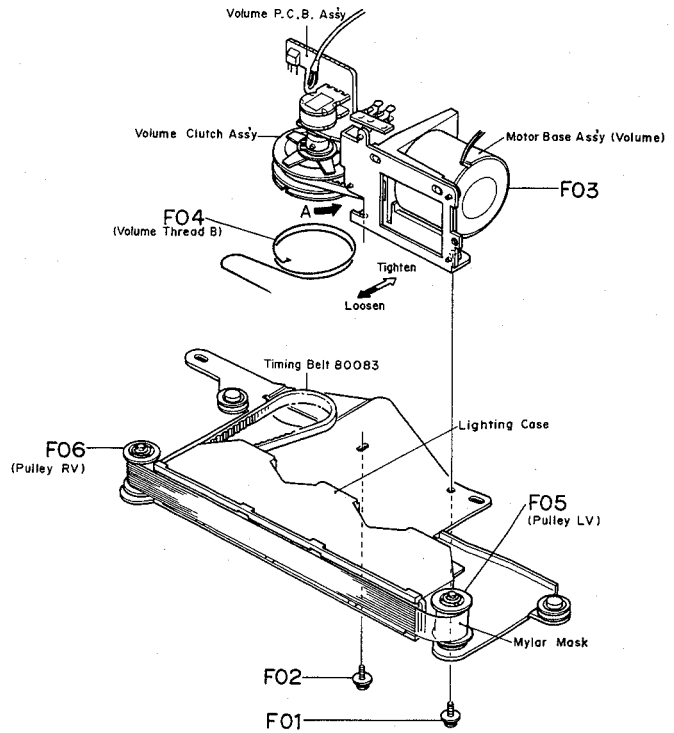
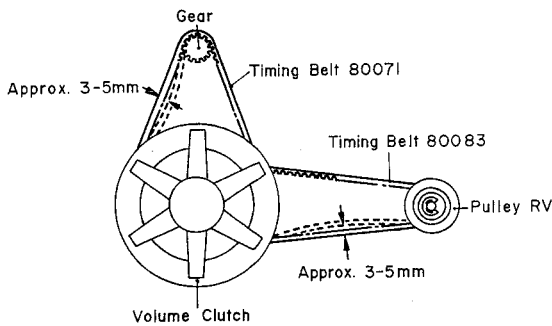
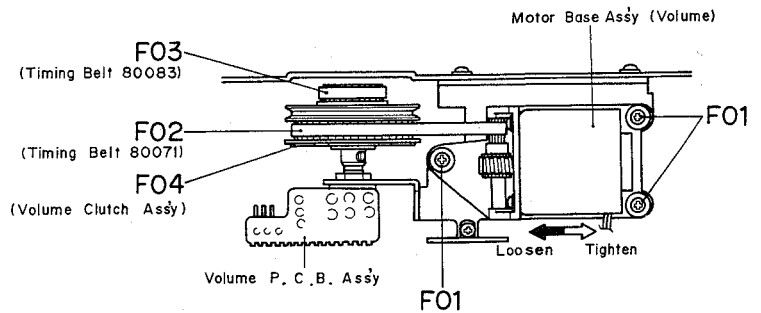

Fig. 5.2.3
Fig. 5.2.9
Fig. 5.2.10
- (1) Remove the Front Panel Ass'y, referring to item 3.3, removal of Front Panel Ass'y.
- (2) Remove the Volume Control Ass'y, referring to item 3.10.
- (3) Remove F01 and F02 shown in Fig. 5.2.3, and detach the Motor Base Ass'y (Volume) F03.
- (4) Referring to Fig. 5.2.3, turn the Volume Clutch manually in direction A until it stops.
- (8) Refer to Figs. 5.2.3 and 5.2.9. Loop the Timing Belt 80083 around the Volume Clutch of the Motor Base Ass'y (Volume), and assemble it with Volume Control Base Ass'y by screws F01 and F02. Readjust it if the position of the Mylar Mask mentioned in (7) slips resulting from incomplete contact between Timing Belt 80083 and Volume Clutch. Adjust the tension of the Timing Belt 80083 by loosening F01 and F02 of Fig. 5.2.3. And make sure that the tension is such that it can be depressed by 3 – 5 mm when it is lightly pushed with the finger as shown in Fig. 5.2.9.
- (9) Refer to Figs. 5.2.9 and 5.2.10. Adjust the tension of the Timing Belt 80071 between the Volume Clutch and the Motor Gear, so that it is depressed by 3 – 5 mm when it is lightly pushed with the finger as shown in Fig. 5.2.9. Adjust the tension of this belt by loosening 3 screws F01 in Fig. 5.2.10.